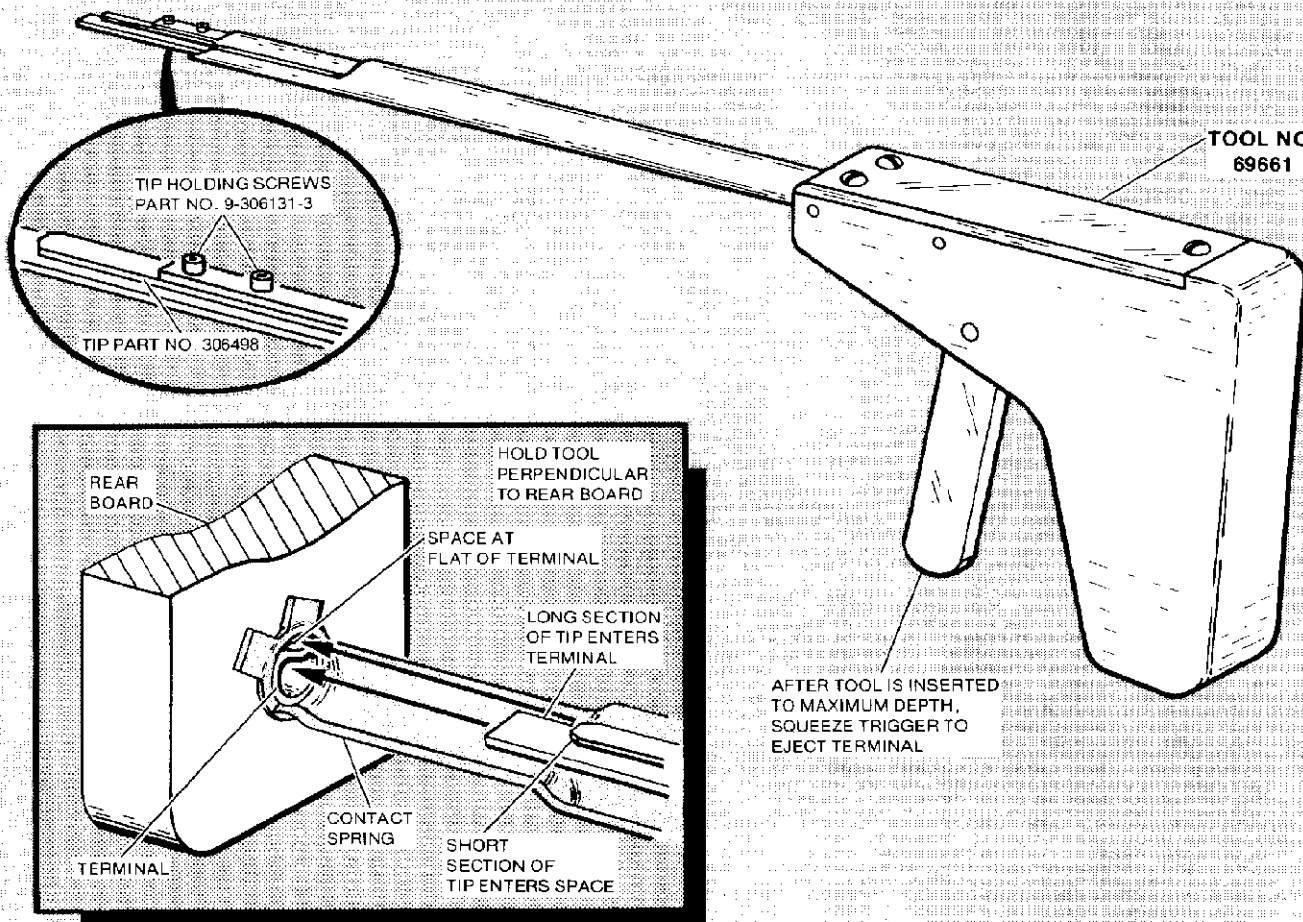

Figure 3
- (b) Tool No. 69661 is held in any convenient manner as long as it is perpendicular to rear board. See Figure 3.
- (g) After tool No. 69661 is inserted to maximum depth, squeeze trigger. See Figure 3. Terminal will be ejected by pressure of tip of tool against wire stop inside terminal.